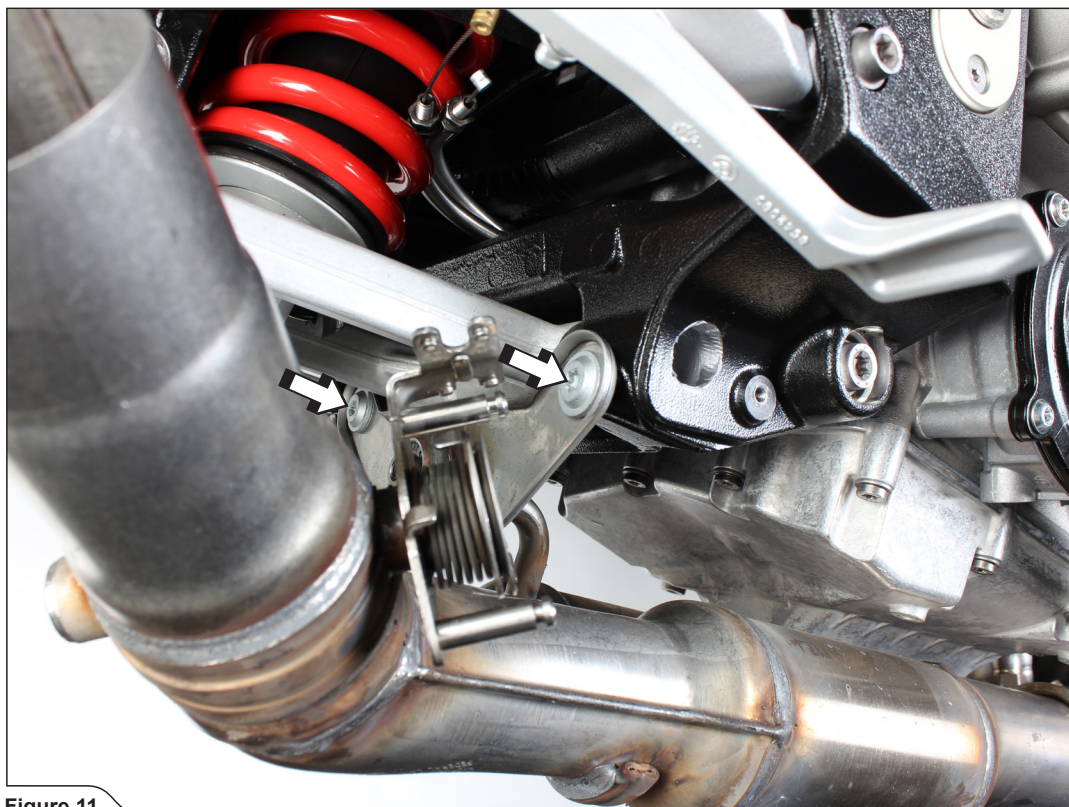

Figure 11
10. Unscrew the market bolts and carefully remove the stock exhaust off the motorcycle (Figure 11, 12).